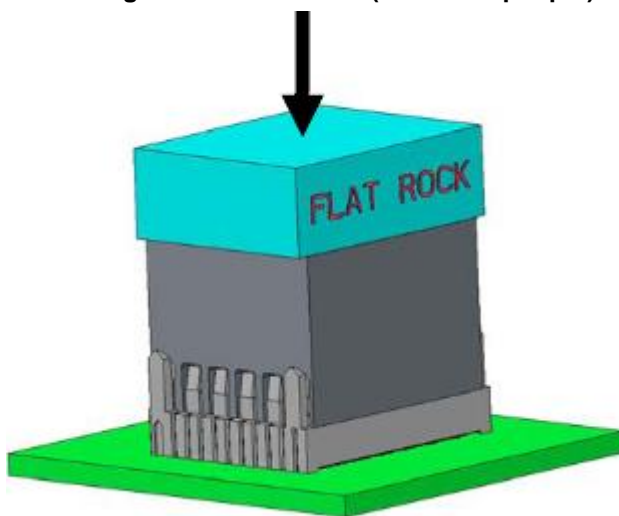

Figure 27: Flat Rock Tool Used to Seat Vertical Connector
- Using a flat rock surface and an insertion press, apply force to the top of the insert tool as shown in figure 27.